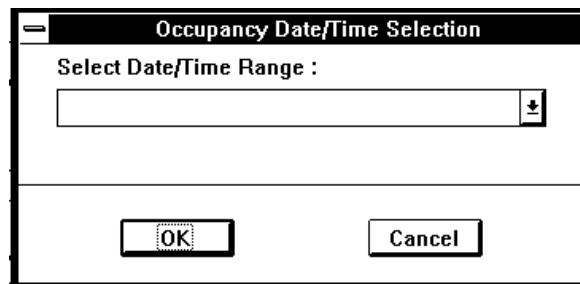

Figure 8-7: Occupancy Date/Time Selection Dialog Box
7. When you click **OK**, the **Occupancy Date/Time Selection** dialog box (Figure 8-7) will open.